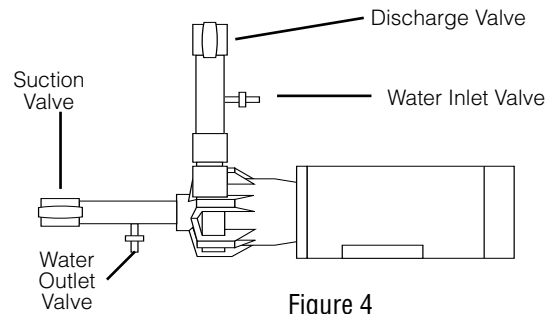

Figure 4
12. When pumping liquids that may solidify or crystallize, a flush system should be added to the piping. See Figure 4. Install water inlet and outlet valves as shown.